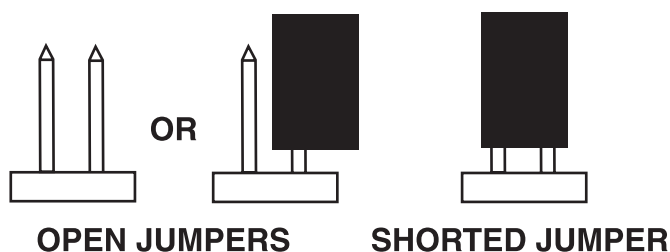

Figure 3-15. Open and Shorted Jumpers.
4. When connecting a 2mv/v simulator, jumper W1 is to be put in place shorting the two pins. See Figure 3-15.
5. When connecting a 3 mv/v Simulator: Jumper W1 must be removed or left in place with one pin uncovered. See Figure 3-15.